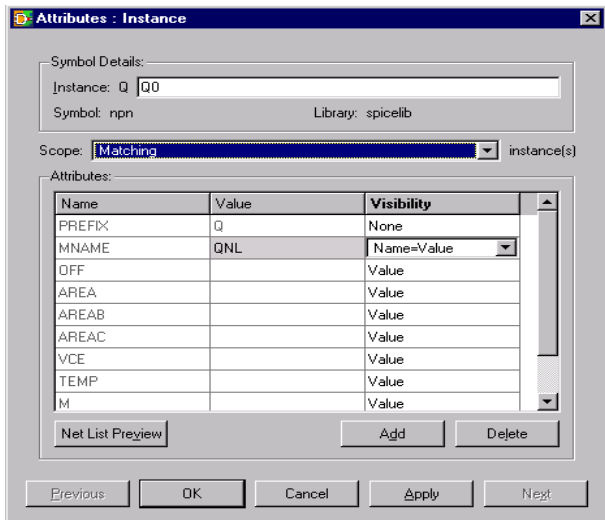

Figure 8. Symbol Attributes Dialog.
8. Make the changes by double clicking the QQ0 BJT instance – then see the dialog in Figure 8 and make the dialog look like Figure 8